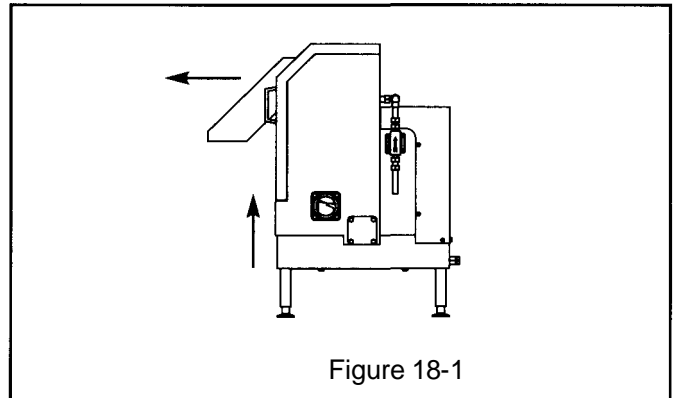

Figure 18-1
2. Holding both handles, remove discharge chute by tilting it upward (see figure 18-1).